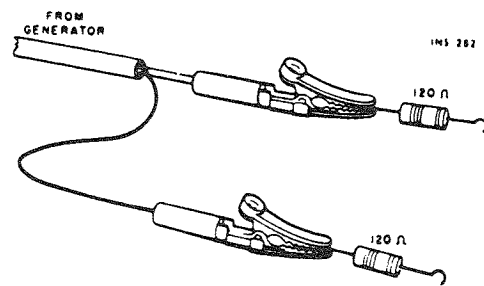

Figure 1. Connections To Provide 300-ohm Generator Output Impedance. Matching Resistors Reduce Generator Voltage By Half At The Antenna Terminals.
(1) Set TUNING dial pointer to zero (0) calibration mark on the logging scale. If the dial pointer does not coincide with the 0 at the extreme end of the knob rotation, reposition the pointer assembly on the dial cord and cement the pointer in place to prevent slippage.
(2) Connect an FM generator to the FM ANT. antenna terminals. Use a 120-ohm composition resistor in series with each lead from the generator (see Figure 1).